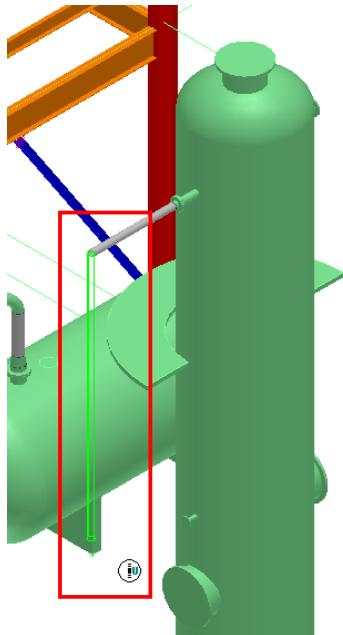

Figure 11: Placed Pipe
45. Key in **15 ft** in the **Length** drop-down list on the **Route Pipe** ribbon. Move the cursor downwards until SmartSketch displays the **U** glyph, as shown in Figure 11. If you can not position the cursor downwards, then select **No Plane** in the **Plane** drop-down list on the **Route Pipe** ribbon. Click in the graphic view to place the pipe.